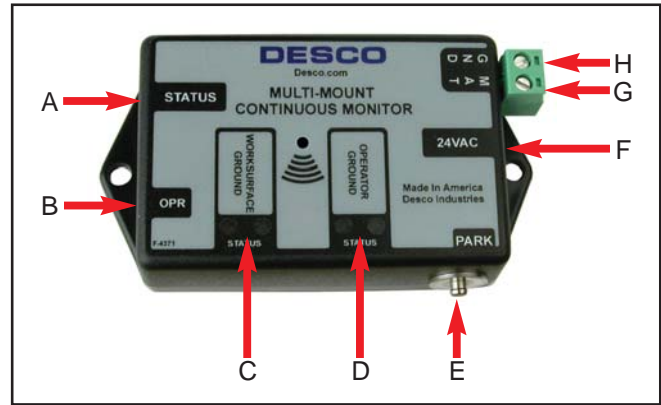

Figure 2. Multi-Mount Continuous Monitor features and components
Features and Components (See Figure 2)
1. Plug a wrist strap cord, not attached to the wristband, into the monitored banana jack labeled OPR on the side of the unit (See Figure 2). This automatically activates the selected operator channel. The red operator LED should illuminate.